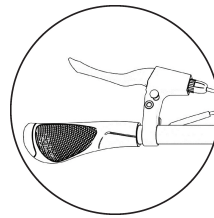
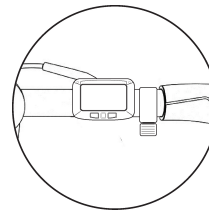

FIG 1. HAND BRAKE LEVER
FIG 2. THROTTLE
2. The Hand brake lever and throttle (**Fig 1** and **Fig 2**) are adjusted downward for shipping. Adjust the throttle and hand brake lever to your desired location, then tighten the screws using the included Allen wrenches.